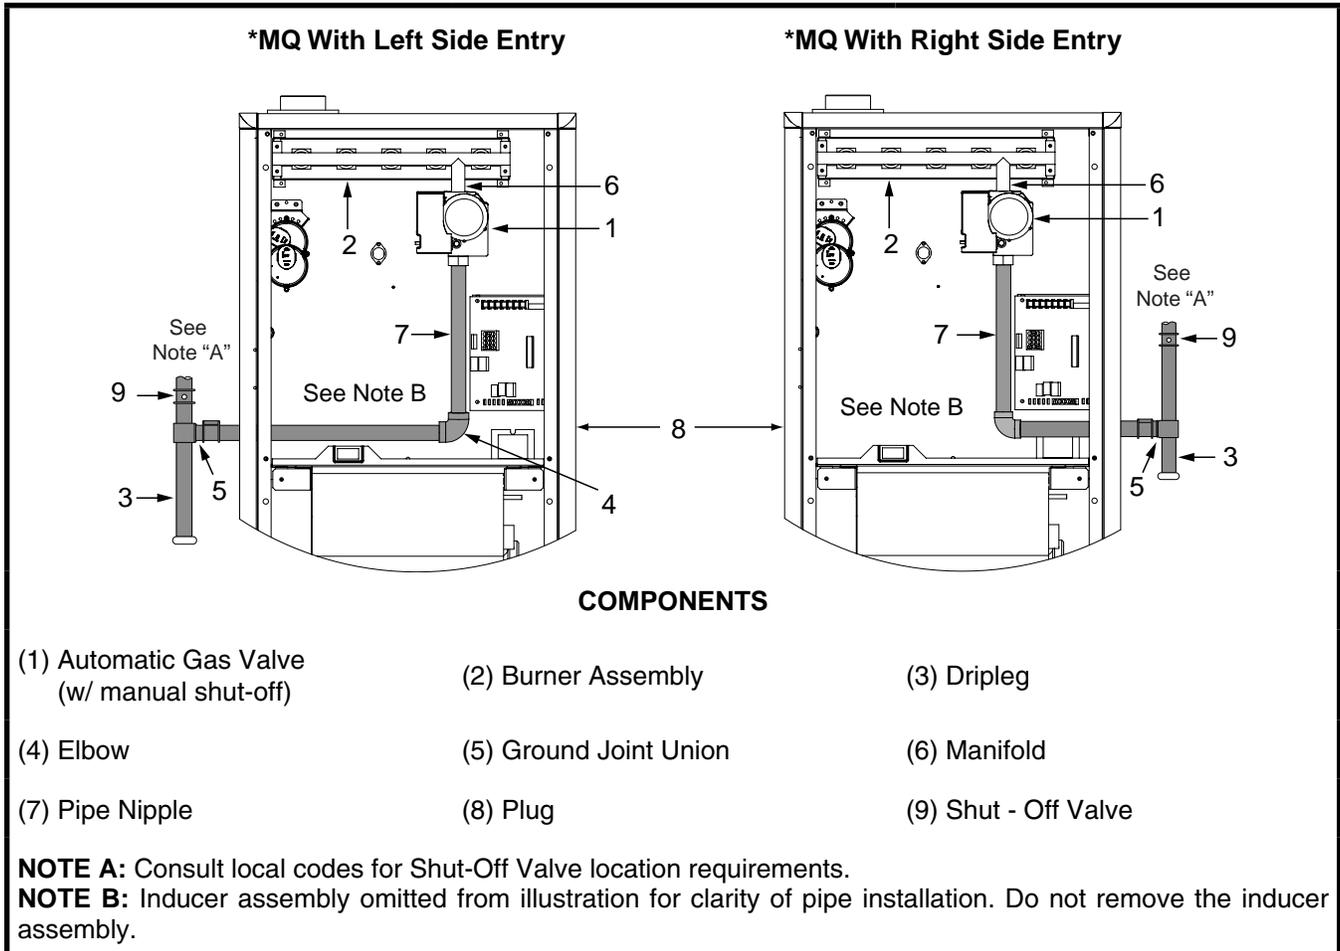

Figure 18. Typical Gas Connections
- Some local regulations require the installation of a manual main shut-off valve and ground joint union external to the furnace as depicted in Figure 18, (page 22). The shut-off valve should be readily accessible for service and/or emergency use. Consult the local utility or gas supplier for additional requirements regarding placement of the manual main gas shut-off.
- A drip leg should be installed in the vertical pipe run to the unit as shown in Figure 18.
The furnace may be installed for either left or right side gas entry. When connecting the gas supply, provide clearance between the gas supply line and the entry hole in the furnace casing to avoid unwanted noise and/or damage to the furnace. A typical gas service hookup is shown in Figure 18.